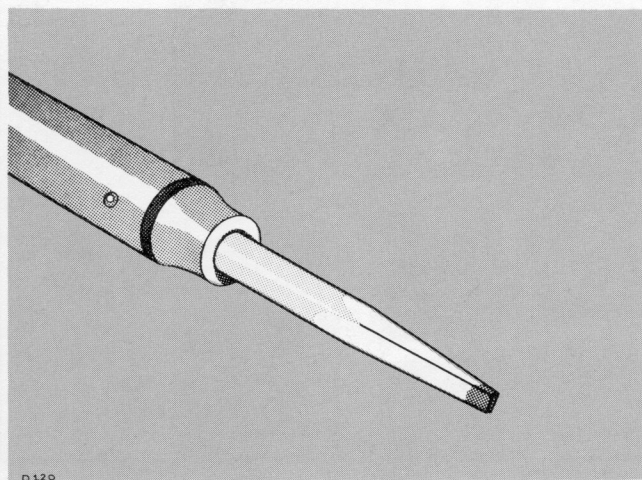

Fig. 5-2. Soldering iron tip properly shaped and tinned.
Because of the shape of the terminals on the ceramic strips it is advisable to use a wedge-shaped tip on your soldering iron when you are installing or removing parts from the strips. Fig 5-2 will show you the correct shape
2. Prepare the tip of the iron as shown in Fig. 5-2.